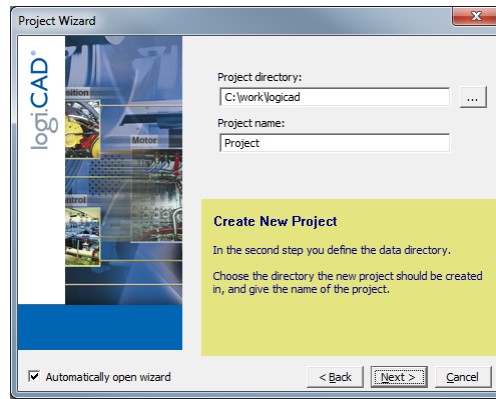

Figure 58: Project name and path
5. Specify the name of the project and the path where to store the project files, see Figure 58.